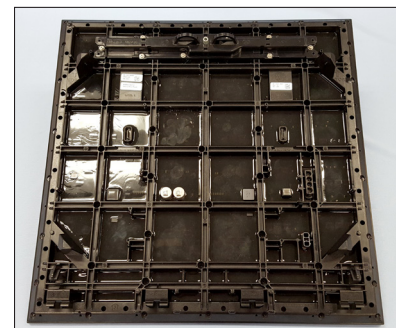

Figure 16: Module Rear
5. Disconnect the SATA cables and unplug the power cable by squeezing the tabs on the sides of the plug head and pulling it out. Refer to **Figure 16**.